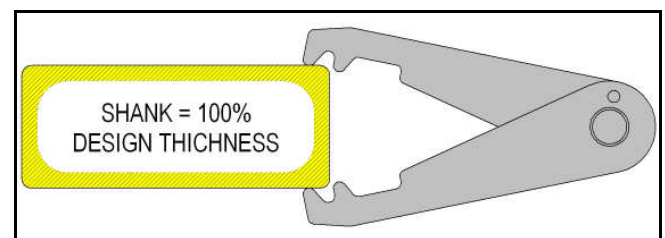

Fig. 2 Set the “top Jaws” to the design thickness
- 2) **Set the Caliper** with the top jaws, Figure 2, by measuring the thickness of the shank where there is no contact with the carriage rail. This location receives almost no wear.
The “set” has not changed if the top jaws fit neatly across the shank, Figure 2, or if the gap between the top jaws equals the design thickness. If the “set” differs, then repeat the process.